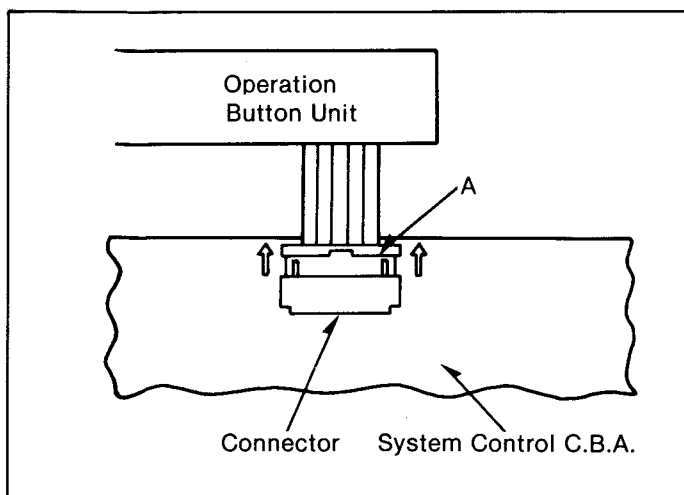

Fig. M10 Removal of the Operation Button Unit
2. Refer to Fig. M10 and disconnect 2 flexible connectors.
Refer to Fig. M10 and disconnect 4 flexible connectors.